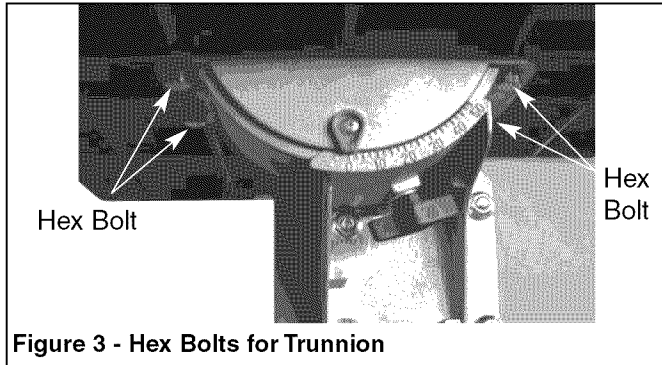

Figure 3 - Hex Bolts for Trunnion
- Loosen the four hex bolts mounting the table to the upper table trunnion (see Figure 3).